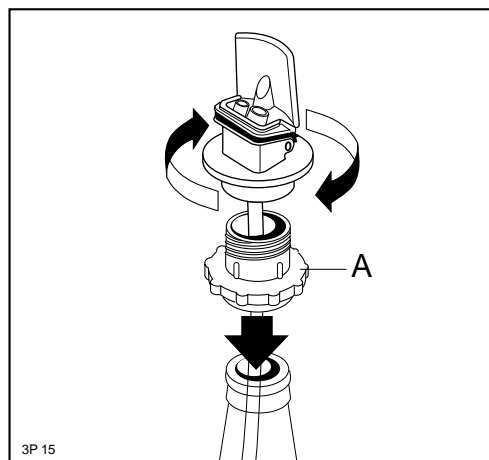

Fig. 10
If the dispenser will not fit the bottle, use the special reducer attachment (A) provided, fitting it as shown in Fig. 10.